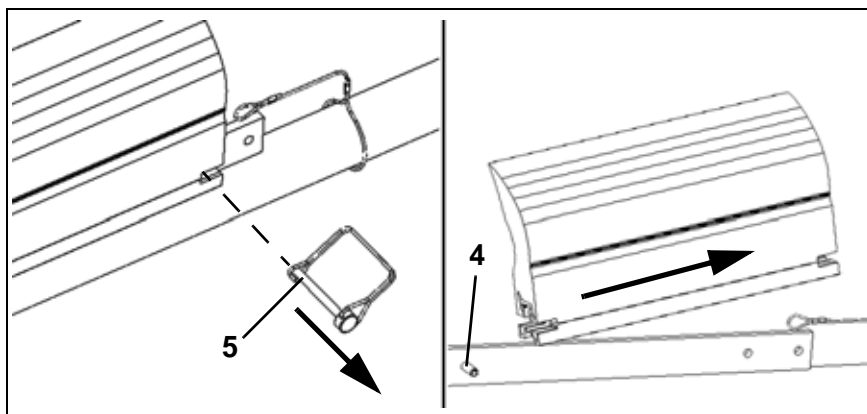

Fig. 3
4. Remove the pin hitch (5, Fig. 3).